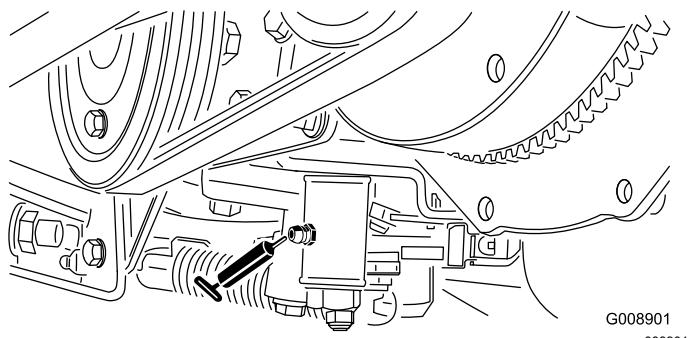

Figure 49
- Neutral adjust mechanism (Figure 49)